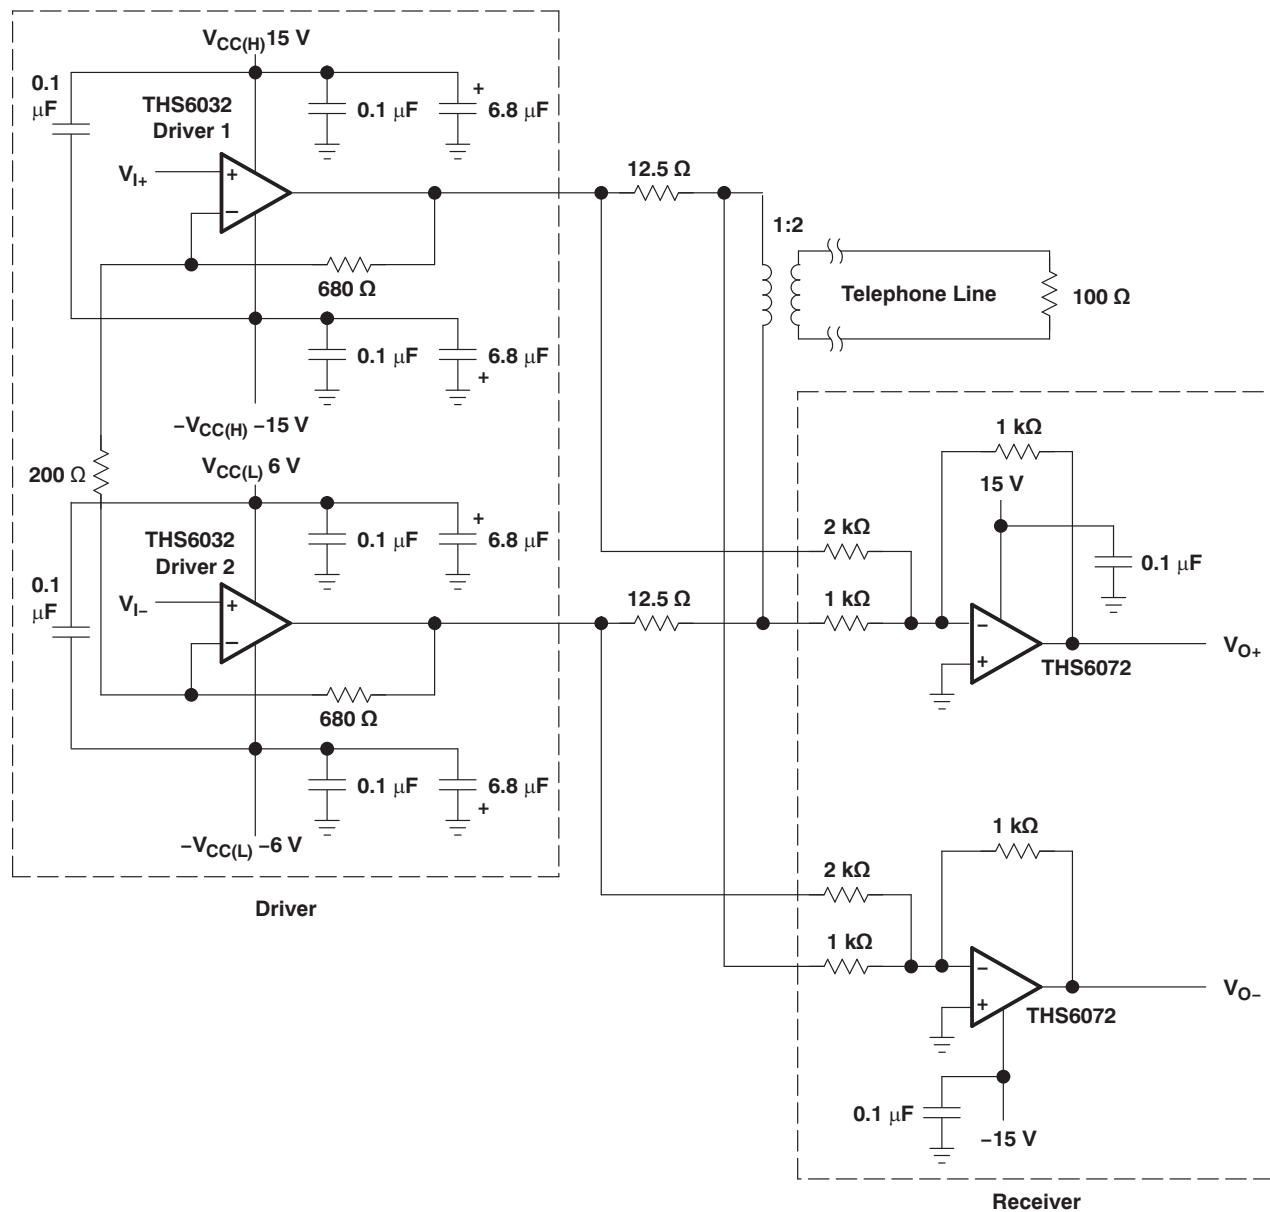

Figure 36. THS6032 ADSL Application
The THS6032 was primarily designed as a low-power line driver for ADSL (asymmetrical digital subscriber line). The driver output stage has been sized to provide full ADSL power levels of 20 dBm onto the telephone lines. Although actual driver output peak voltages and currents vary with each particular ADSL application, the THS6032 is specified for a minimum full output current of 400 mA at its full output voltage of approximately 11 V. This performance meets the demanding needs of ADSL at the central office end of the telephone line. A typical ADSL schematic is shown in Figure 36.
- Differential power supply decoupling – The THS6032 was designed to drive low-impedance differential signals. The 25-Ω load that each amplifier drives causes large amounts of current to flow from amplifier to amplifier. Power-supply decoupling for differential-currents must be provided to ensure low distortion in the THS6032. By simply connecting a 0.1-μF ceramic capacitor from the +V_{CC(H)} pin to the -V_{CC(H)} pin, along with another 0.1-μF ceramic capacitor from the +V_{CC(L)} pin to the -V_{CC(L)} pin, differential current loops will be minimized (see Figure 36). This will help keep the THS6032 operating at peak performance.
The THS6032 incorporates a shutdown circuit to conserve power. Traditionally, when an amplifier is placed into shutdown mode, the input and output circuitry are turned off. This conserves a large amount of power, but the output impedance will be a very high, typically greater than several k Ω . This situation does not maintain proper line termination, resulting in a severe reduction of the receive signal coming through the transmission line (see Figure 36).